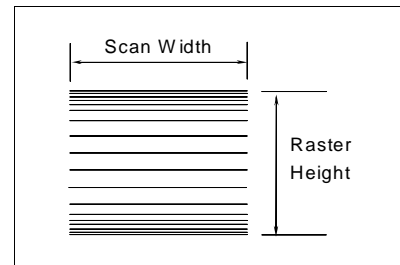

Figure A-9 Raster Image
- **Raster Height (RH)** is the distance between the extremities of the scan lines as shown in the raster image in figure A-9. Raster height is generally dictated by the application (range and label placement). Other factors being equal, the greater the raster height, the fewer scan lines available for given label.